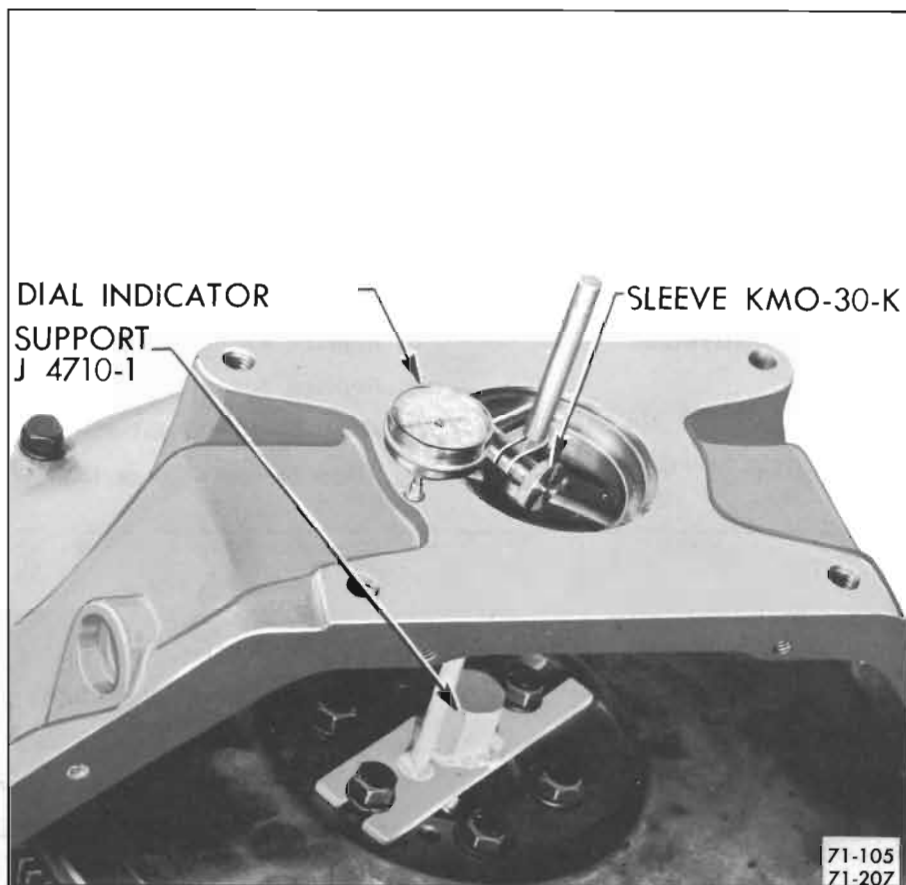

Figure 71-207—Checking Alignment of Rear Face
7. Mount dial indicator to bear against rear face of flywheel housing at a radius of 2 1/2", as shown in Figure 71-207.
sure that end thrust of crankshaft is all one way while making this check. If total indicator reading exceeds .003", check for dirt or burrs between housing and crankcase. See Figure 71-207.